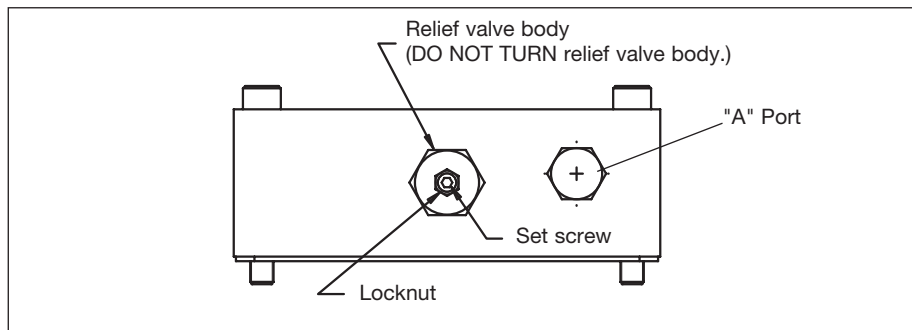

Figure 6, Relief Valve Adjustment
1. Install a 0-15,000 psi [0-1,035 bar] gauge in the "A" port (see figure 6).